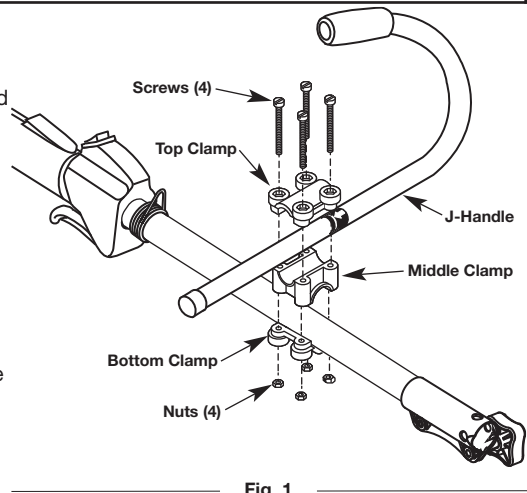
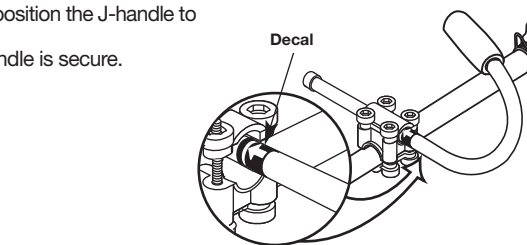

Fig. 1
Fig. 2
1. Place the J-handle between the top and middle clamp pieces (Fig. 1).
2. While holding the three pieces together, install the four (4) screws through the top clamp and into middle clamp.
5. Slide the J-handle in or out until the arrow/white line on the decal touches the clamp assembly (Fig. 2). You must first loosen the screws if the handle is pre-installed.